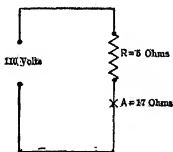

FIG. 29. A coil and arc lamp across a 110-volt line.
**16. Series Circuit. Voltage.** Suppose a coil ( $R$ ) of 5 ohms resistance, and an arc lamp ( $A$ ) of 17 ohms resistance are joined in series, as in Fig. 29, across a 110-volt line.